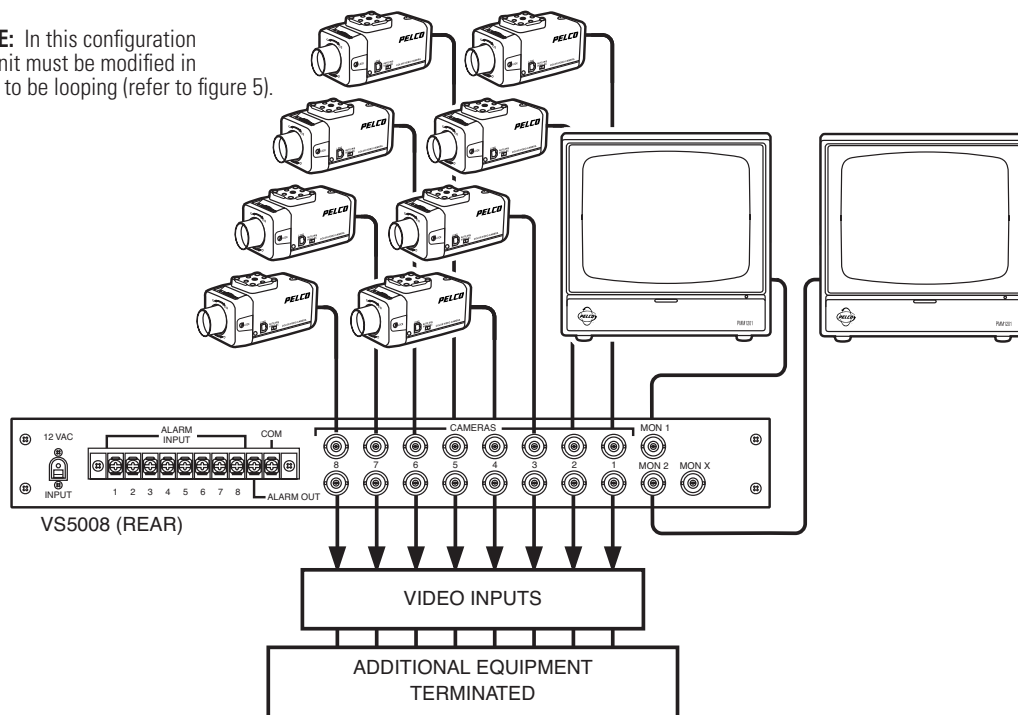

Figure 12. VS5008 Looping Camera Inputs- Two Monitors
3. Make all equipment connections. Refer to Figure 11 (VS5004) or Figure 12 (VS5008).